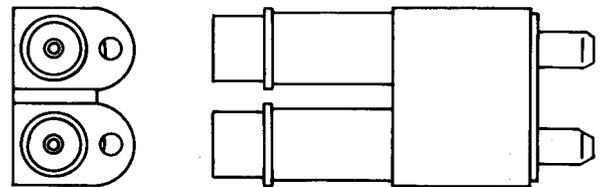

Fig. 12—562-Type Jack
2.12 **562A, B, and C:** These are twin coaxial-type jacks (Fig. 12).